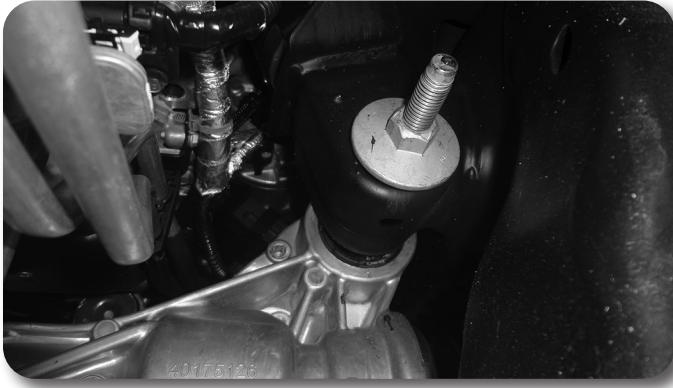
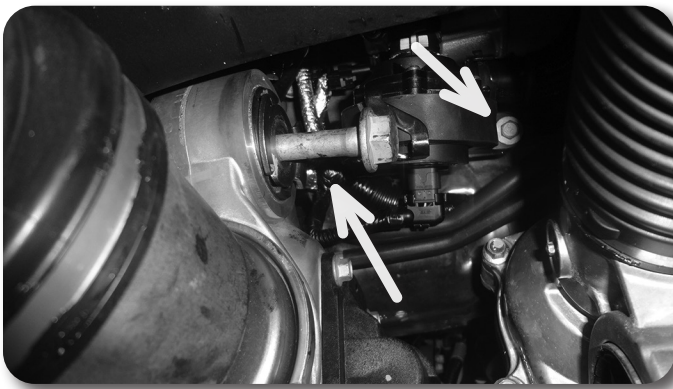

Figure 19A
Figure 19B
The bolt holding the actuator may need to be removed in order to aid in removal of the long bolt for the differential. The bolt is on the right side in Figure 19B. Reinstall the bolt for the actuator after it has been removed. It also helps to push the rear of the differential upwards to point the bolt head downwards to aid in removal.
26. Remove the nut from the passenger's side differential mounting bolt Fig. 19A. Carefully lower the differential to the ground while removing the long bolt for the passenger's side differential mount Fig. 19B. Discard the bolt, save the nut